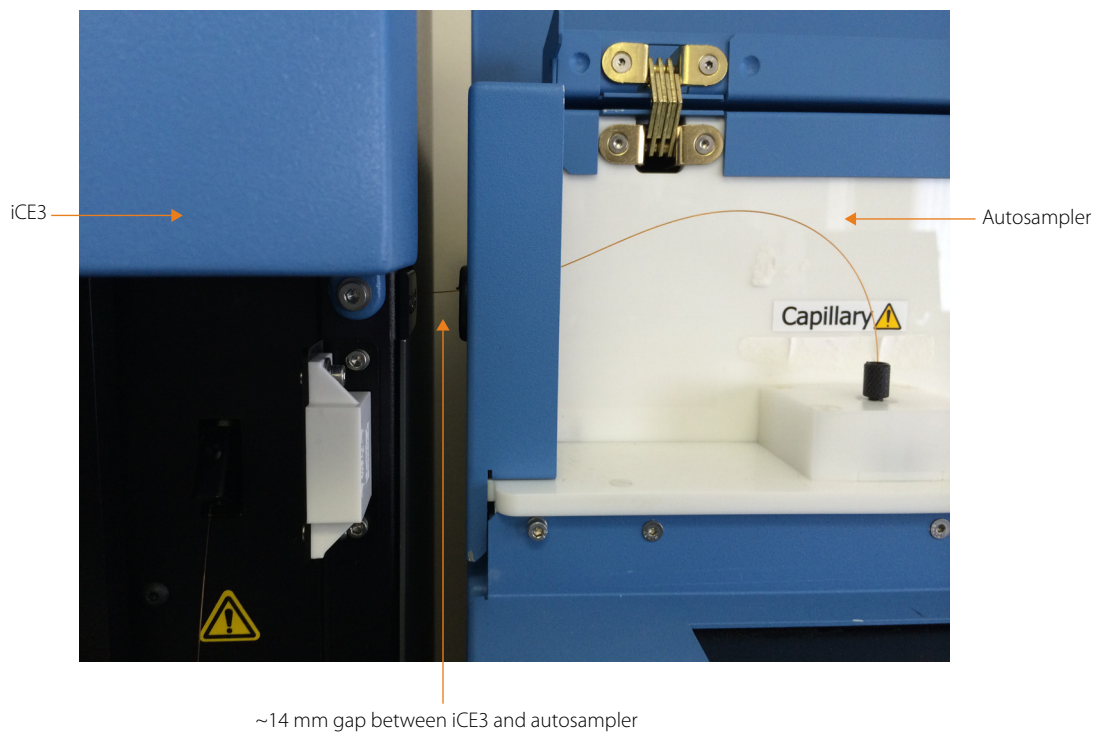

Figure 4-25: Transfer capillary entering autosampler left-side port.
7. Align the iCE3 system and autosampler capillary opening. Ensure the gap from wall to wall between the autosampler and the iCE3 is approximately 14 mm (Figure 4-25).
8. Continue threading until the capillary comes out the right-side port of the iCE3 and goes into the left-side port of the autosampler (Figure 4-25).